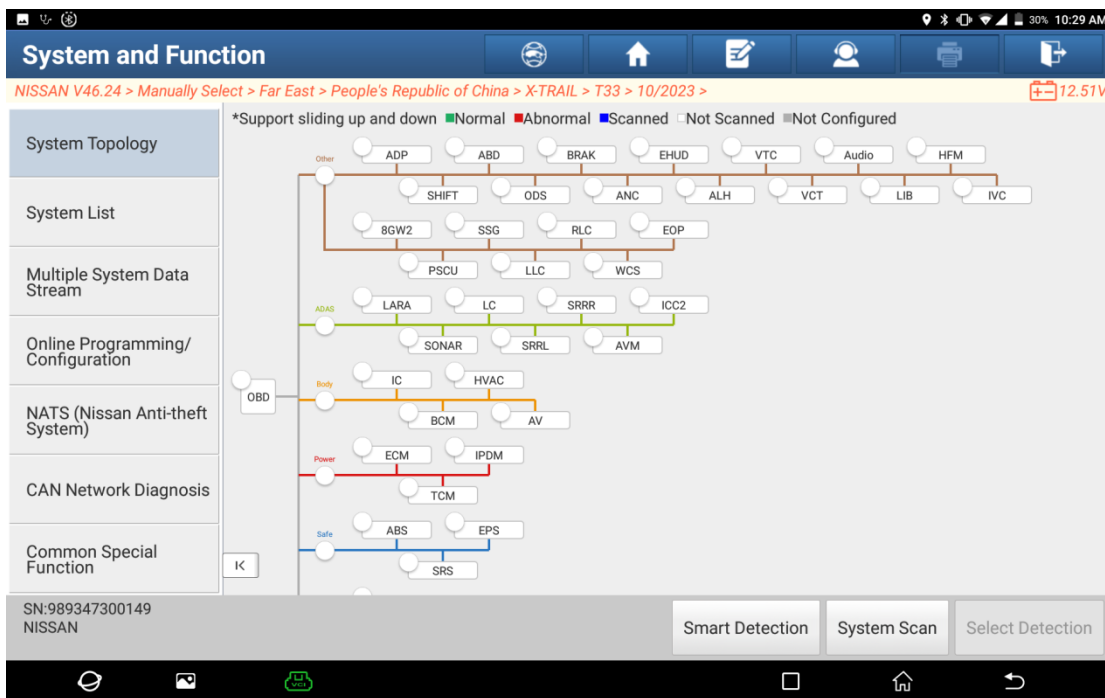

Figure 5
- Click [Manually Select], and choose [Far East] > [People's Republic of China] > [X-TRAIL] > [T33] > [10/2023] to enter the vehicle model system interface (Figure 5).